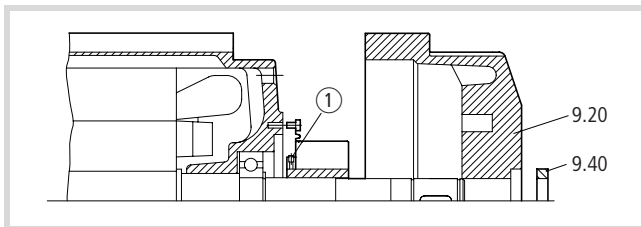

Figure 33: Tacho-generator
① Set screw to DIN 914
- with one or two set screws ① (→ Fig. 33).